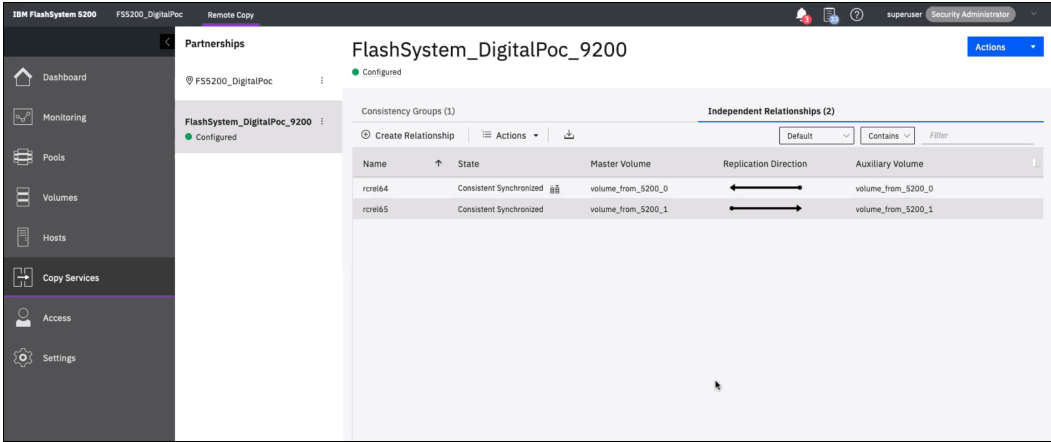

Figure 8-36 Completion of one volume
9. After completion of one volume (as shown in Figure 8-36) follow the same steps as described in step 7 on page 590 for the next volume.